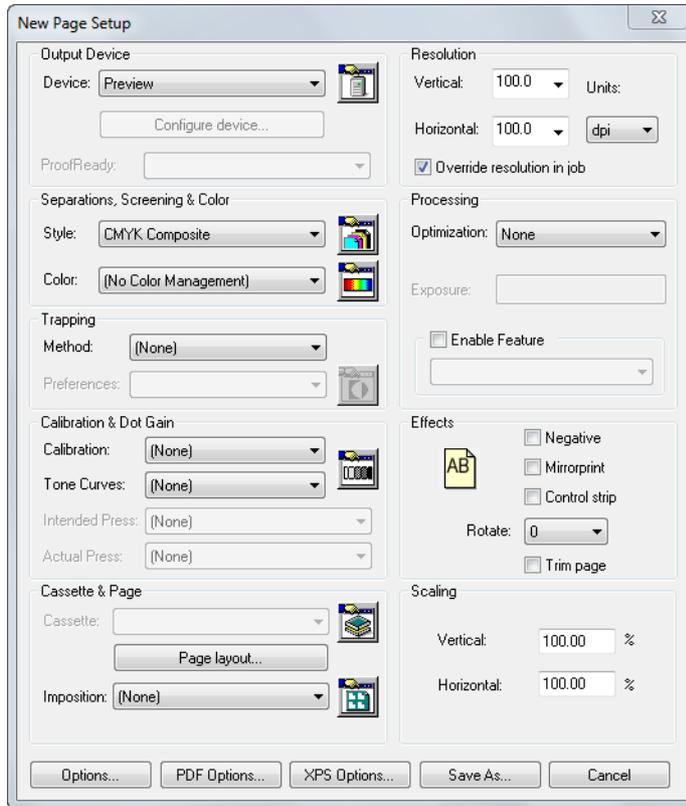

Figure 3.2 New Page Setup dialog box
3. In the Edit Page Setup dialog box, shown in Figure 3.2, set the **Device** to `None` and the **Vertical** and **Horizontal** resolutions to something small, say 72 dpi. If you change the **Device**, you must choose a separations style listed in the **Style** drop-down list and, for some devices, a cassette name from the **Cassette** drop-down list.
2. In the Page Setup Manager dialog box, select `Default Page Setup` and click **Copy** to display the New Page Setup dialog box. The New Page Setup dialog box is very similar to the Edit Page Setup dialog box, shown in Figure 3.2 on page 49.